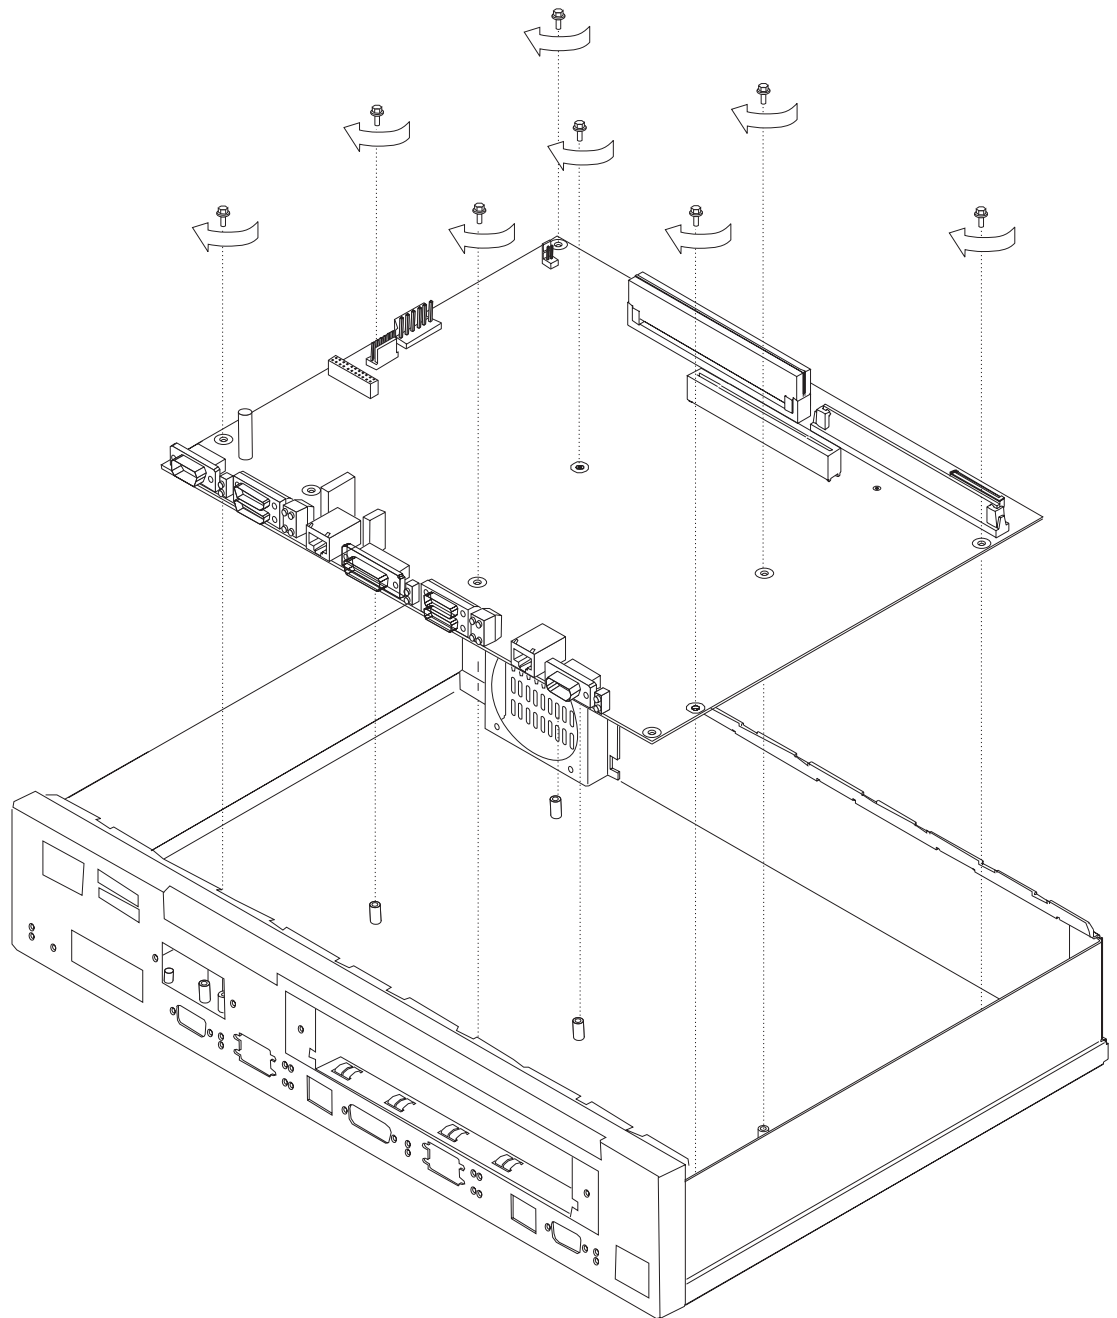

Figure 4-16. System Board Retainer Screws (14T and 24x Models)
- 3** Use a nut driver to replace the system board retainer screws. Figure 4-16 on page 4-13 shows the location of the retainer screws.